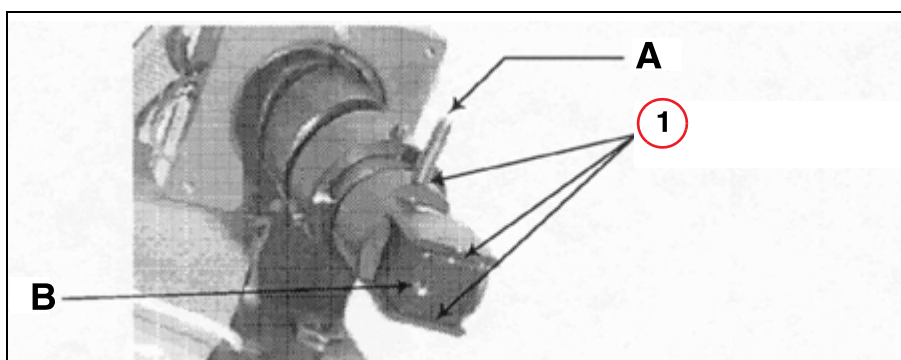

Fig. 23: SDM lacquer
- Vertical direction: Loosen the grub screw (A/Fig. 23 / p. 32) and rotate the optical system.
- Secure the optical system with safety lacquer on the grub screw and on the prism, see (B/Fig. 23 / p. 32).